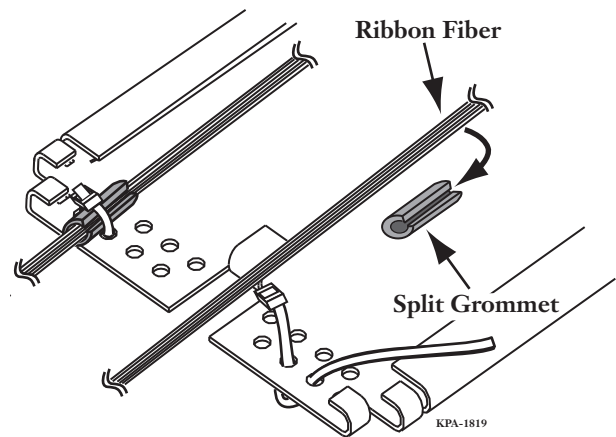

Figure 34
- Step 1:** Orient the ribbon fiber on its edge with the aqua (#12) fiber facing upward. Insert up to four ribbon fibers in a split grommet (Figure 34).